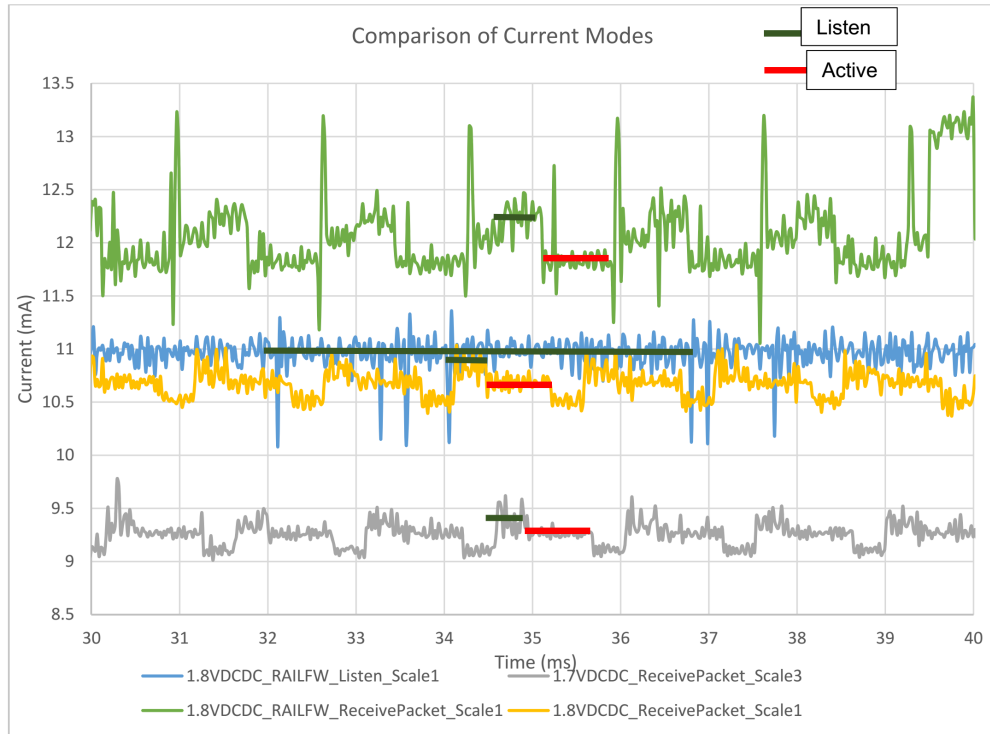

Figure 3.1. Comparison of Current Modes
1. See Figure 3.1 Comparison of Current Modes on page 9.